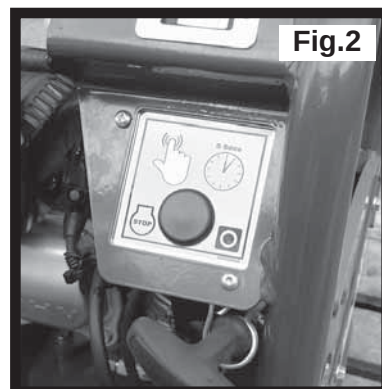

Fig.2
1. To stop the engine, set the throttle control to idle (See Fig. 1), then press and hold the red stop button until the engine stops (See Fig. 2).